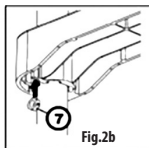
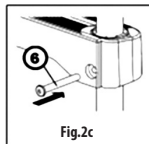

Fig.2b
Fig.2c
Slide the treads along stiles so that the holes for screws fit well with the holes in stiles. Put the nut (7) (Fig. 2b) into the groove made in tread lower surface and fix the tread with screws (6) (Fig. 2c).